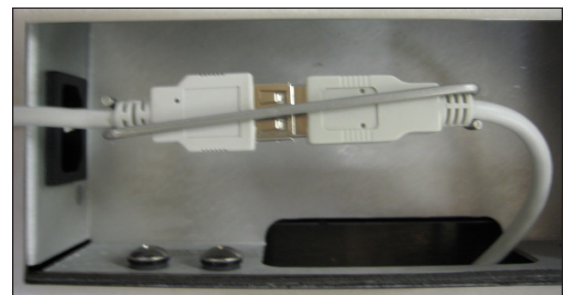

FIGURE 2
8.  For monitors with a permanently installed keyboard, connect the USB cable from the keyboard to the short USB extension cable from the KVM Remote Module. Secure the USB connectors with the provided wire retaining clip as shown in Figure 2.